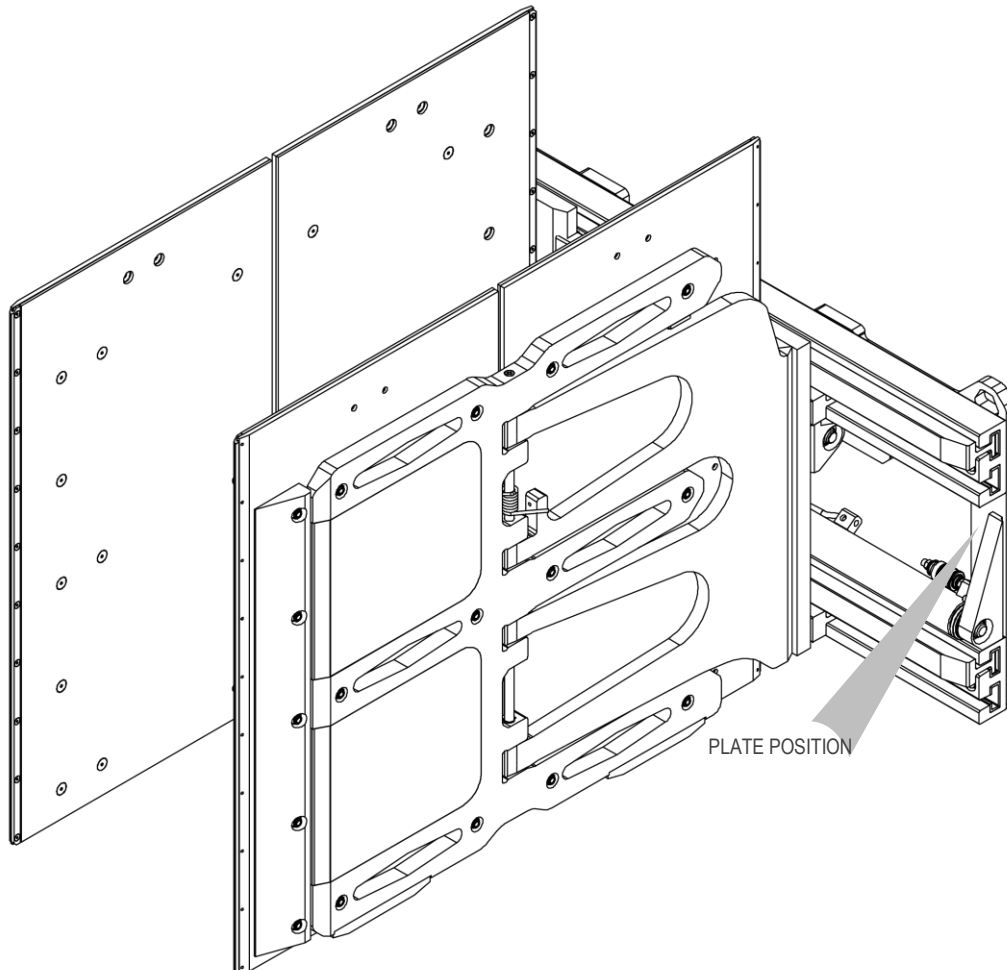

Figure 1
All the A.T.I.B. equipment – CLAMP FOR HOUSEHOLD APPLIANCES AND BOXES TYPE 474.180 - 181 are identified by means of an adhesive plate (see *Table 1*) located on the equipment (see *Figure 1*), always refer to the serial number.
5. For handling, use straps or chains that are suitably sized in relation to the weight of the equipment as indicated on the plate (see *Figure 1* and *Table 1* on page 12).
9. Connect the hydraulic circuit, ensuring that the operating pressure of the lines is greater than or equal to that indicated on the rating plate (see *Figure 1* and *Table 1* on page 12).
6. For handling, use straps or chains that are suitably sized in relation to the weight of the equipment as indicated on the plate (see *Figure 1* and *Table 1* on page 12).